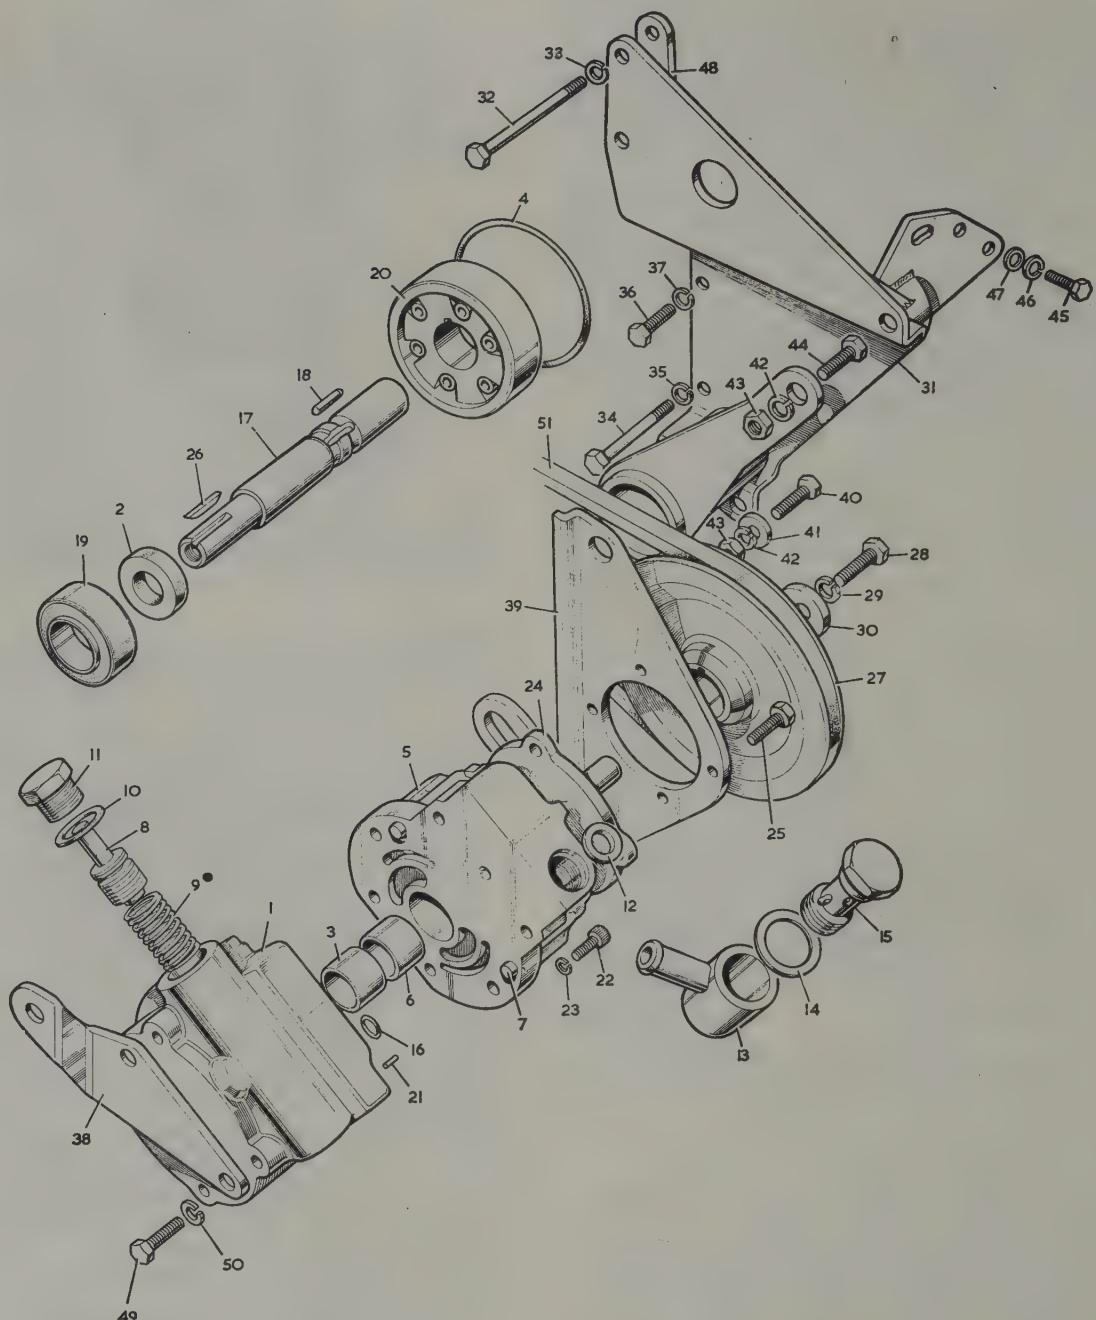

Fig. 11.54. Exploded view of the power steering hydraulic pump
- 12 Reassembly is a reversal of dismantling but observe the following points. The shaft seal is fitted to the pump body so that its lip is towards the carrier pocket. The vane carrier is fitted to the shaft so that the greater vane angle is as shown in Fig. 11.54.